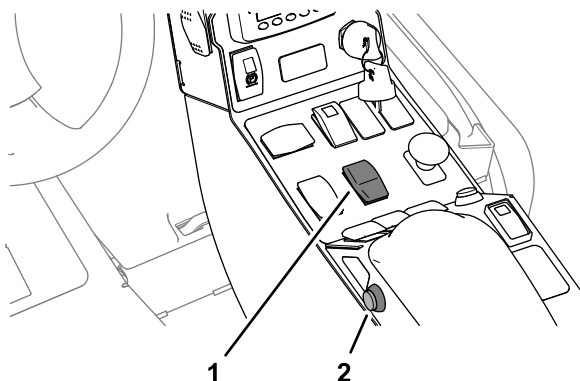

Figure 23
2. Press the high—low range-speed switch to the L (low range) position (Figure 23)
3. Press and hold the momentary switch (Figure 23).